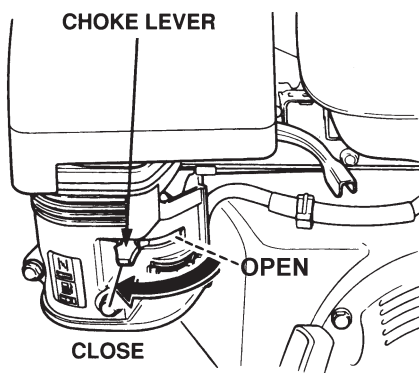

Figure 25. Engine Choke Lever
- Place the **Choke Lever** (Figure 25) in the "OPEN" position
- If the engine has started, slowly return the choke lever (Figure 25) to the **CLOSED** position. If the engine has not started repeat steps 1 through 5.